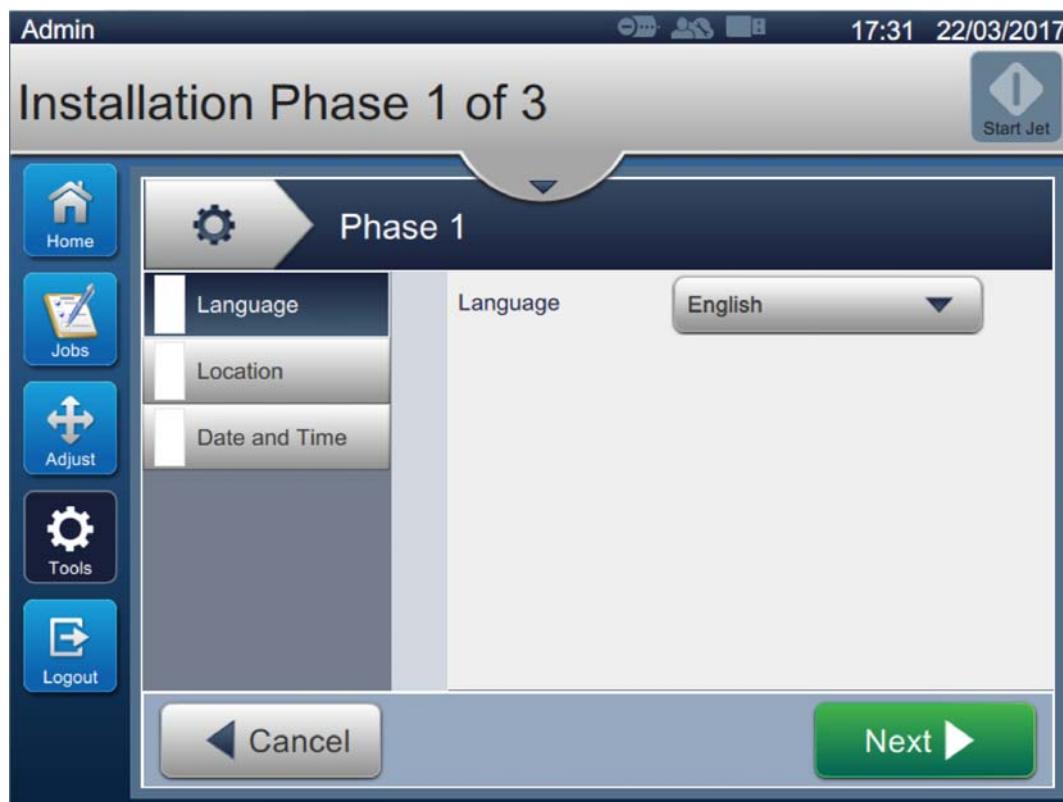

Figure 6-24: Installation Screen
1. Touch the  button from the Tools screen. The Installation screen opens as shown in the Figure 6-24.